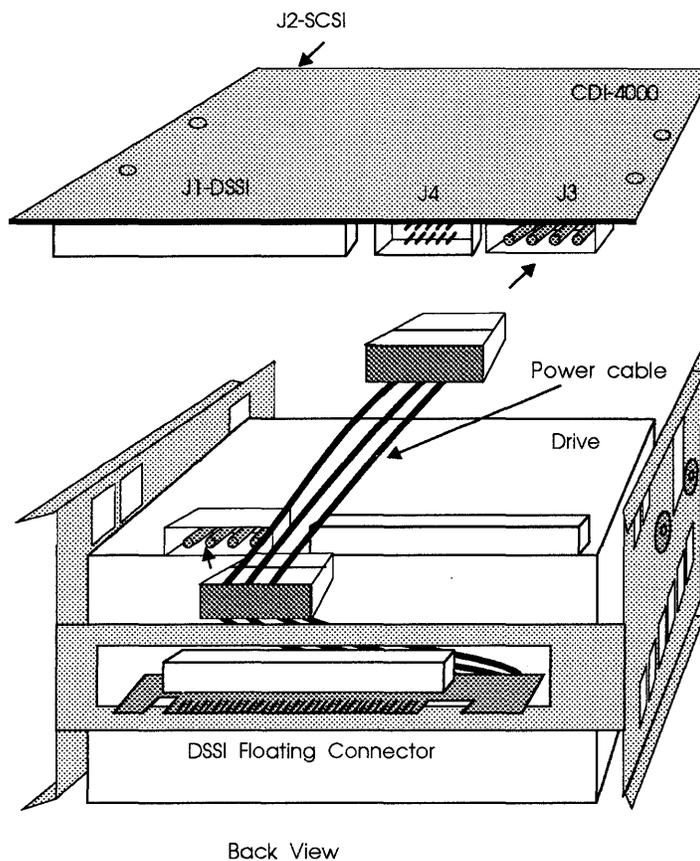

Figure 4-14: CDI-4000-SA1 power connections
- 5 Connect the middle connector of the power cable to the power connector on the drive and the end connector to the J3 on the CDI-4000. See Figure 4-14.